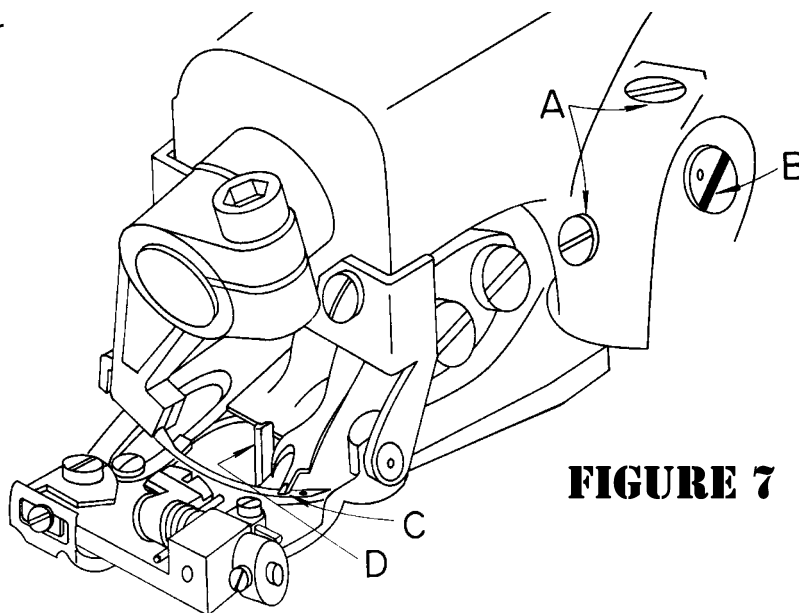

FIGURE 7
2. Any time a looper is moved or changed, recheck the looper timing and reset if necessary. Proper looper timing is absolutely essential for correct stitch formation. As described in detail below, a properly timed looper will pass over the needle in the correct position to pick up the loop, and also clear the chain-off pin, feeder, looper slot, and needle. The first check point for timing the looper is at the position where the looper picks the thread loop off the needle during the needle return stroke. Referring to **Figure 7, (Point "C")**, the long prong of the looper should pass over and just clear the scarf of the needle, approximately $\frac{3}{32}$ " (2.4mm) behind the end of the needle eye. At the same time, the short prong of the looper should pass over the needle with about $\frac{1}{64}$ " (.406mm) clearance, and must be set that it also clears the chain-off pin (**item "D" in Figure 7**).
5. If, after completing the above adjustments, it is found that the looper is either too low or too high, it will be necessary to adjust the eccentric stud. First loosen the two set screws (**item "A" in Figure 7**). Place a wide blade screwdriver in the slot of the eccentric stud (**item "B" in Figure 7**) and, using a slight turning motion, raise or lower the looper as required. Once the proper height is established, check to see whether the looper must be moved to the left or to the right prior to retightening the eccentric block set screws. If such a movement is required, it may be obtained by lightly tapping the eccentric block in the correct direction with the handle of a screwdriver
1. After considerable service, it may become necessary to replace the chain off pin, (**Item "D" in Figure 7**).